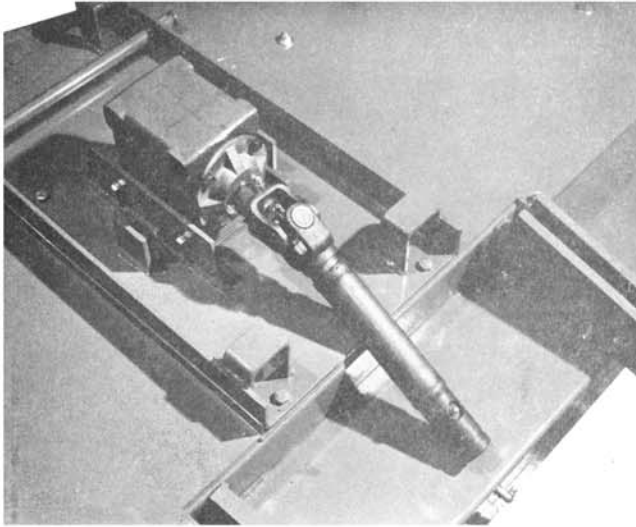

fig 11
13. Align the keyway of the female U-joint assembly (item 39) and slide joint on shaft. Secure U-joint to shaft with bolt (item 93) and nut (item 91). See fig 11.